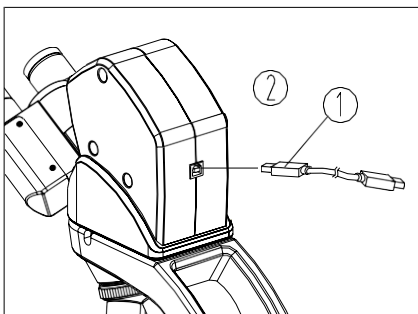

Fig.19
★ **Avoid using excessive force, bending or twisting USB cable which will cause damage.** Insert the connector① of cable into the USB port② on the back of microscope head, then insert cable into the USB port of the computer (See Fig.19), Digital USB interface: voltage 5V, current \leq 500mA.